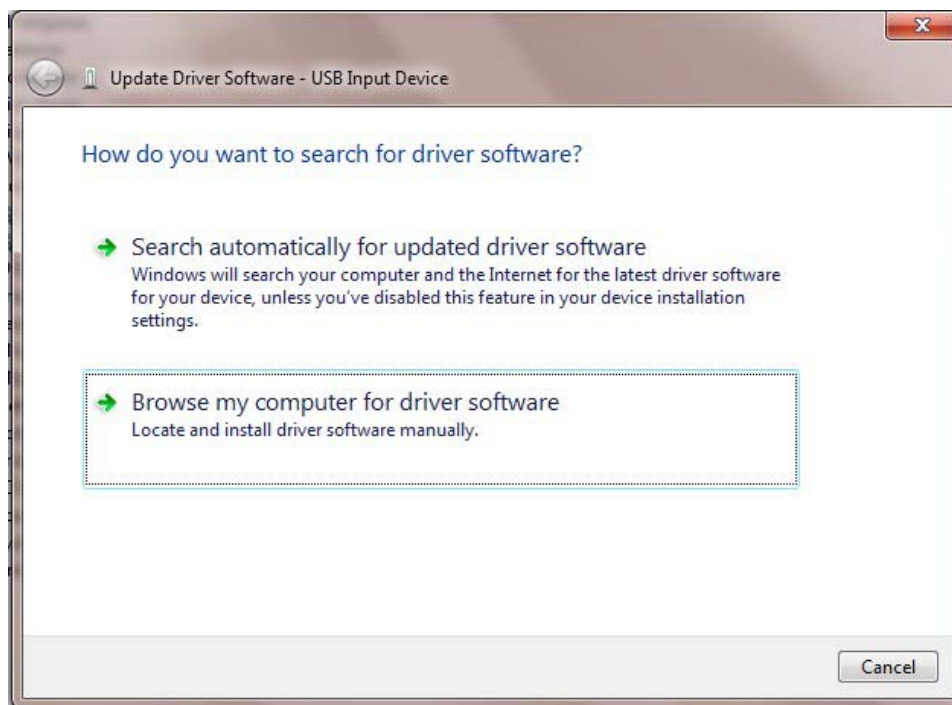

Figure 8 • Updating Driver Software - Locate and Install the Driver Software Manually
8. Select **Browse my computer for driver software** from the **Update Driver Software - USB Input Device** window as shown in Figure 8.